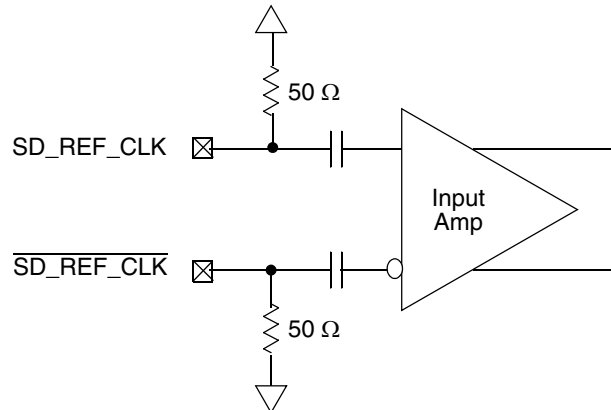

Figure 51. Receiver of SerDes Reference Clocks
Figure 51 shows a receiver reference diagram of the SerDes reference clocks.
- The  $\overline{SD\_REF\_CLK}$  and  $SD\_REF\_CLK$  are internally AC-coupled differential inputs as shown in Figure 51. Each differential clock input ( $\overline{SD\_REF\_CLK}$  or  $SD\_REF\_CLK$ ) has on-chip 50- $\Omega$  termination to  $SGND\_SRDSn$  ( $xcorevss$ ) followed by on-chip AC-coupling.